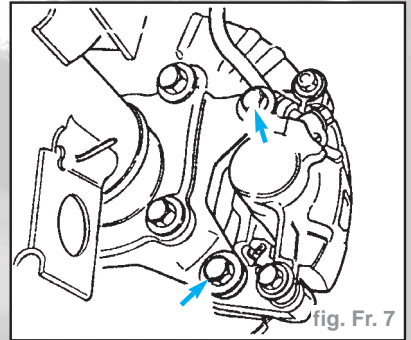

fig. Fr. 7
• Le support d'étrier, deux vis (flèches) (fig. Fr. 7).